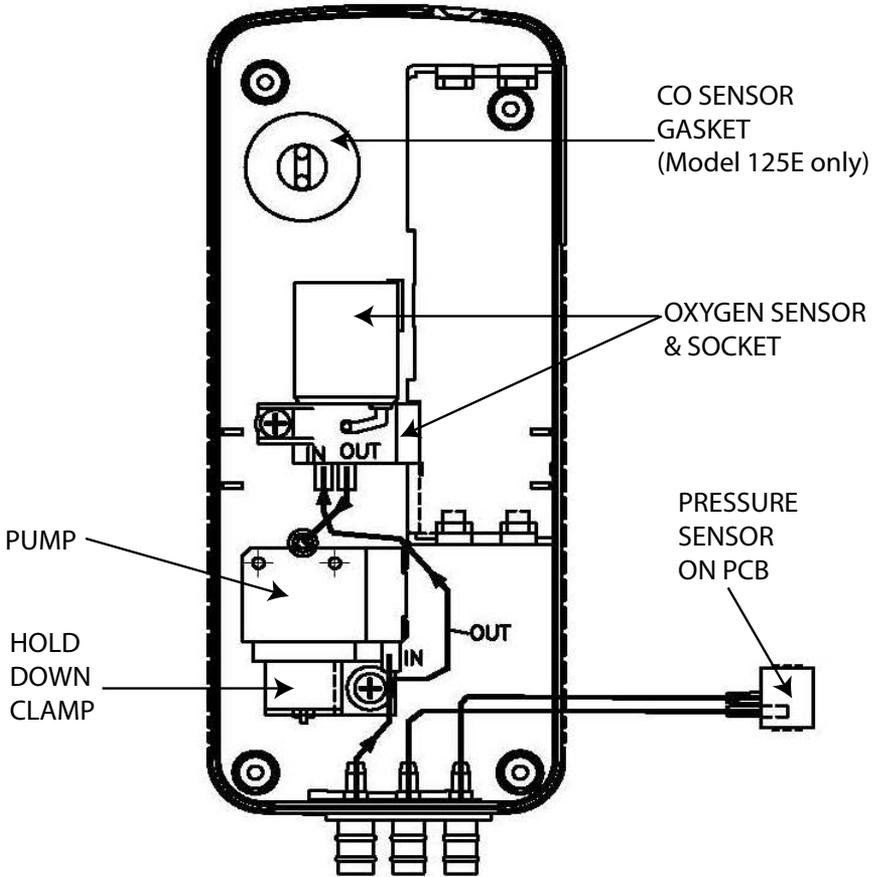

Figure 5-4. Inside Case Components
2. Slip off the oxygen sensor's electrical connector from the circuit board. Then push down; twist counterclockwise; then pull the oxygen sensor out of its socket (see Figure 5-4).
3. Unscrew the pump's hold down clamp and remove it from the pump (see Figure 5-4). Make note of how the pump wiring is routed.